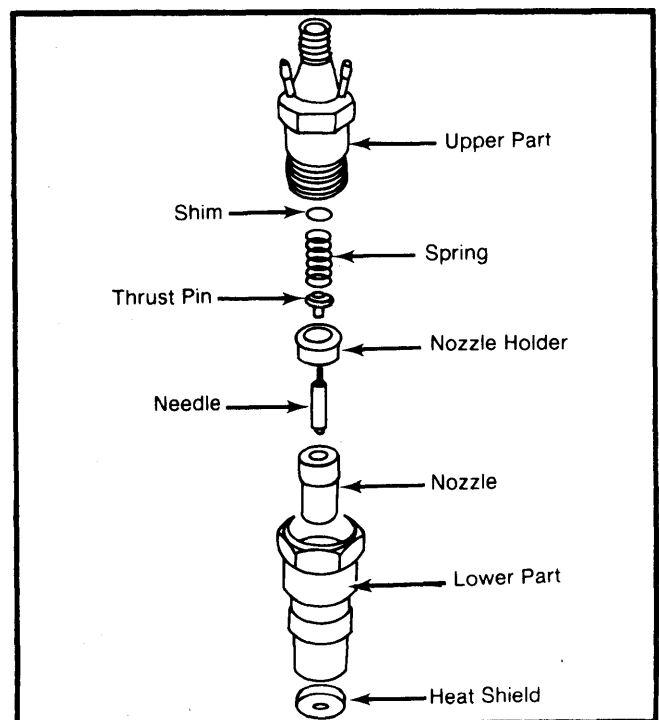

Fig. 20. Exploded View of Injection Nozzle
1) To disassemble nozzles, place upper part in vise and loosen lower part. To prevent parts from falling out, then reverse position with lower part in vise. Carefully disassemble, keeping all individual parts together. See Fig. 20. Do not interchange parts from one nozzle to another.